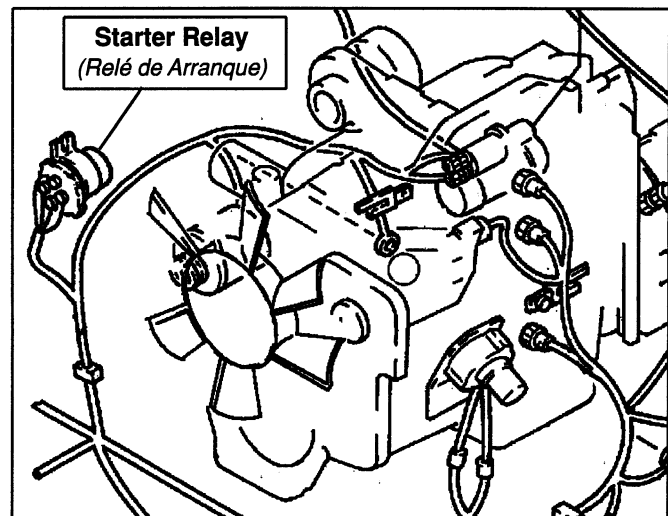

FIG. 4B
- A. Locate the starter relay bolted on the upper frame towards the front of the machine, see Fig. 4B. (Ubique el relé de arranque atornillado al chasis de la estructura superior, al frente del motor, ver Fig. 4B).